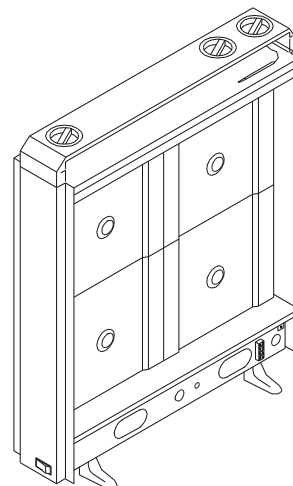

Fig.3
8.- Place the storage bricks carefully, with the flat side facing the back of the heater. Arrange two rows of bricks (fig 3).